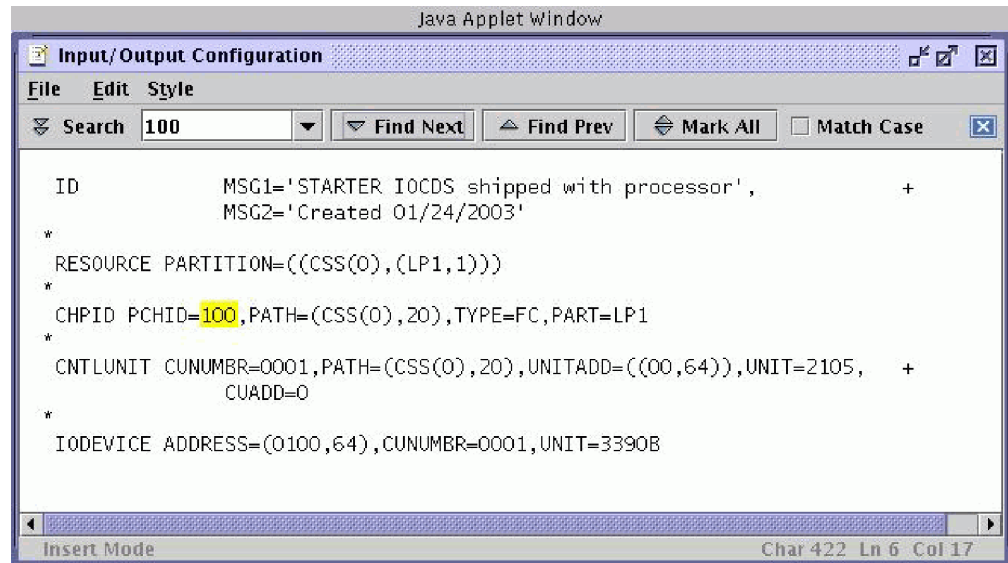

Figure 2-17. Searching for Text
- Find (Ctrl+F)** Locates a specified search argument. Clicking **Find** displays the **Search** field under the menu items, as Figure 2-17 on page 2-15 shows: